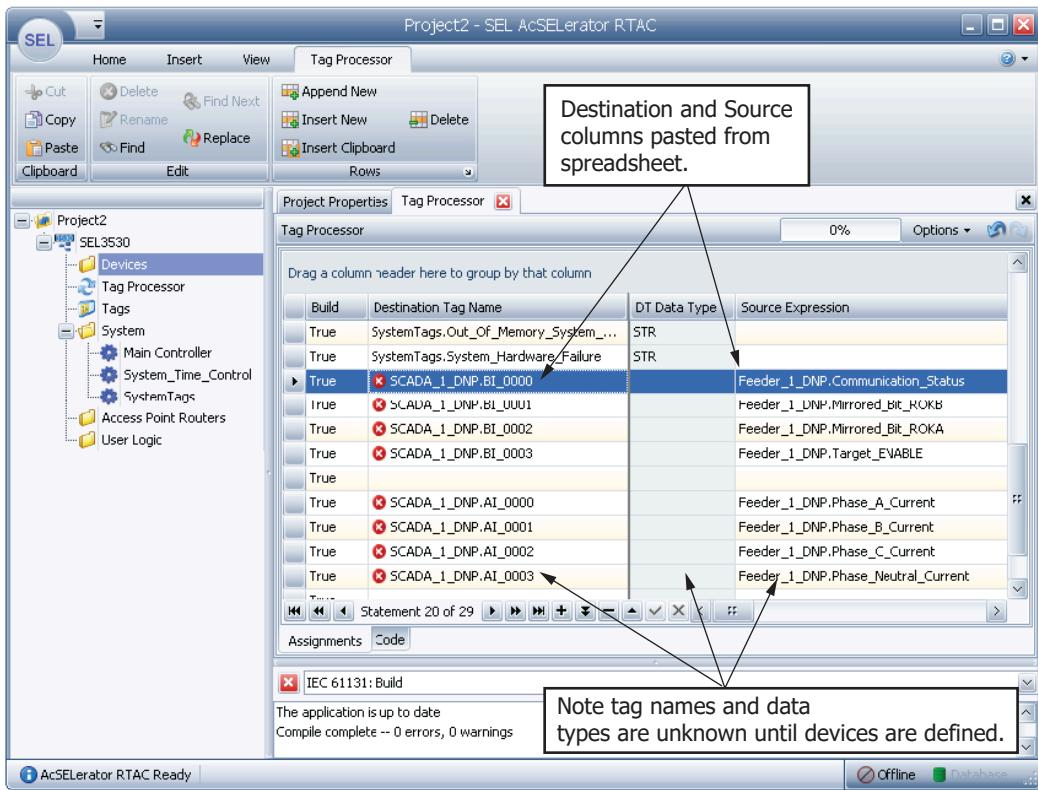

Figure 3.11 Copy/Paste Spreadsheet Tags
- Step 5. The source and destination tags are now mapped, but these tags still do not exist in the ACCELERATOR RTAC database. Note in *Figure 3.11* that ACCELERATOR RTAC does not fill out the source and destination data types because the tags are not yet defined. A appears beside each undefined tag.